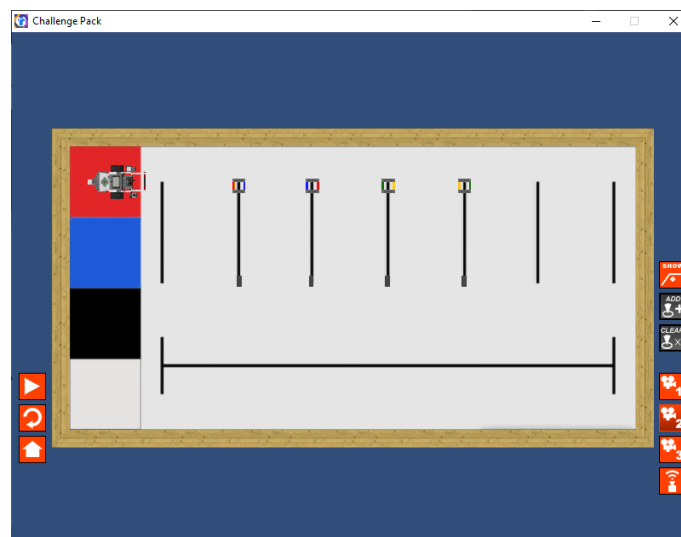

Figure 3: Color Sensor Table
- You will be tracking a dark line on a white surface. To measure the values sensed by the color sensor, first place the robot in the starting position D (light surface color) in the Color Sensor Table under the Utility Tables in the Robot Virtual Worlds (Figure 3). Record this value. Similarly, with the robot on the C starting position (dark color) and record the value. Calculate the threshold value by taking the mean of these two values.